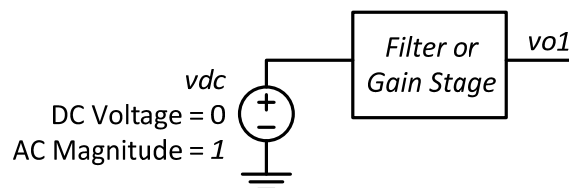

Figure 4. Example Cadence schematic for P2.3b.
- b) Build the three stages of the filter (two filter stages and gain stage) separately on the same schematic in Cadence. Do not wire them together in series yet. Connect a separate DC voltage source (*AnalogLib* > *vdc*) to the input of each stage, as illustrated in Figure 4. Give these sources a DC amplitude of 0V and an AC amplitude of 1V. Label the output nets of the three stages *vo1*, *vo2*, and *vo3*.